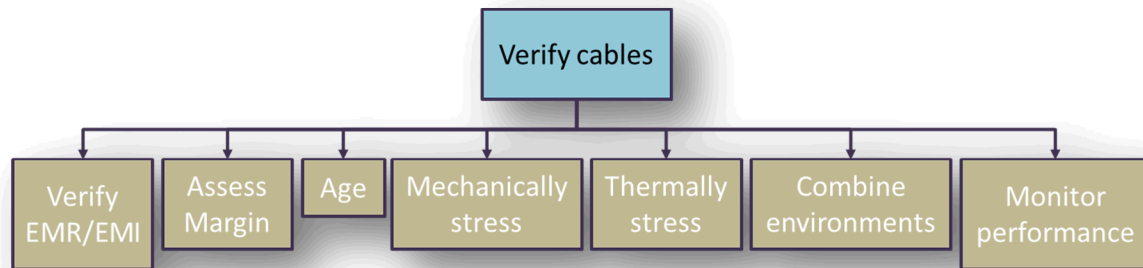

**Figure 6 Function Architecture Following Physical Architecture**
*In considering Physical Architecture, Functional Requirements, and Operating Modes as the methods for defining the functional partitions, I have chosen the method of following the Physical Architecture approach. Figure 6 is the functional architecture that is based on the physical architecture. Although it was difficult to decide between the Physical Architecture and the Functional Requirements partition, I settled on the above architecture because of the following reasons:*